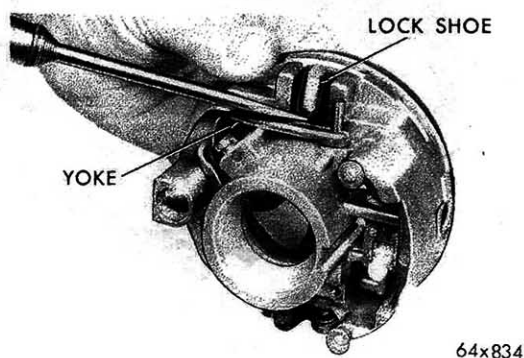

Fig. 34 - Prying Out the Lock Shoes
- (3) Remove the lock shoes and springs by pushing the upper end of the lock shoe through the openings in the actuator housing. This can be facilitated by using a screwdriver and prying the arm of the shoe up and off the tilt actuator yoke (Fig. 34).